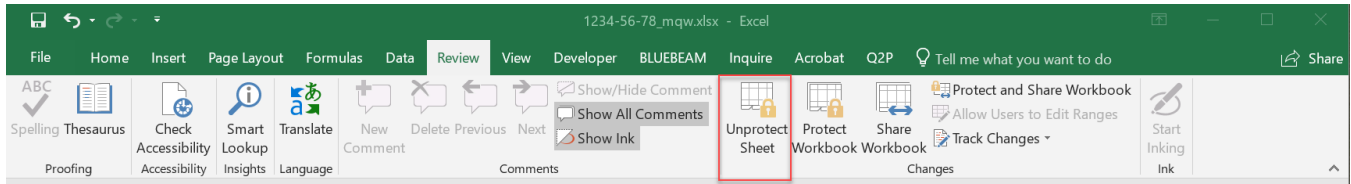

Figure 12.7 “Unprotect Sheet” command.
2. From the “Bid Items” worksheet, select **Review > Changes > Unprotect Sheet** (Figure 12.7).